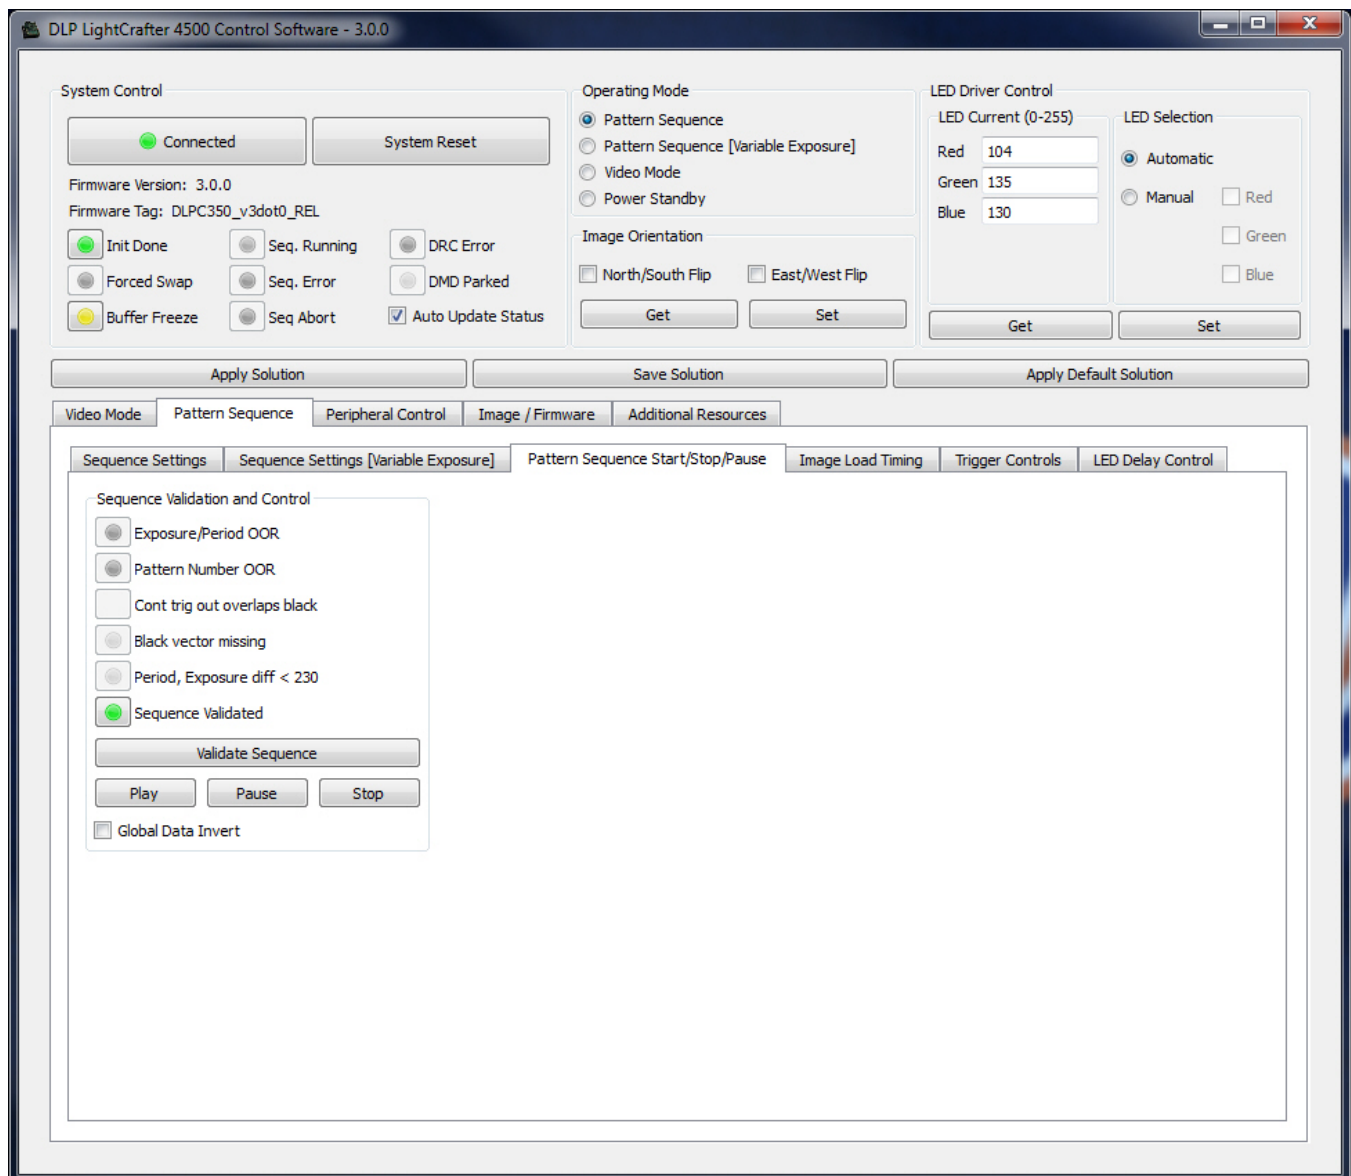

Figure 3-6. Pattern Sequence Mode: Start, Pause, Stop
7. Clicking send will jump the GUI to the *Pattern Sequence Start/Stop/Pause* subtab as seen in Figure 3-6. Clicking the **Validate Sequence** button executes a data validation and updates the Data Validation status indicators in this tab. If the data validates successfully, the pattern sequence is downloaded to the DLP LightCrafter 4500 and waits for the **Play** button to be pressed to start displaying the pattern sequence.